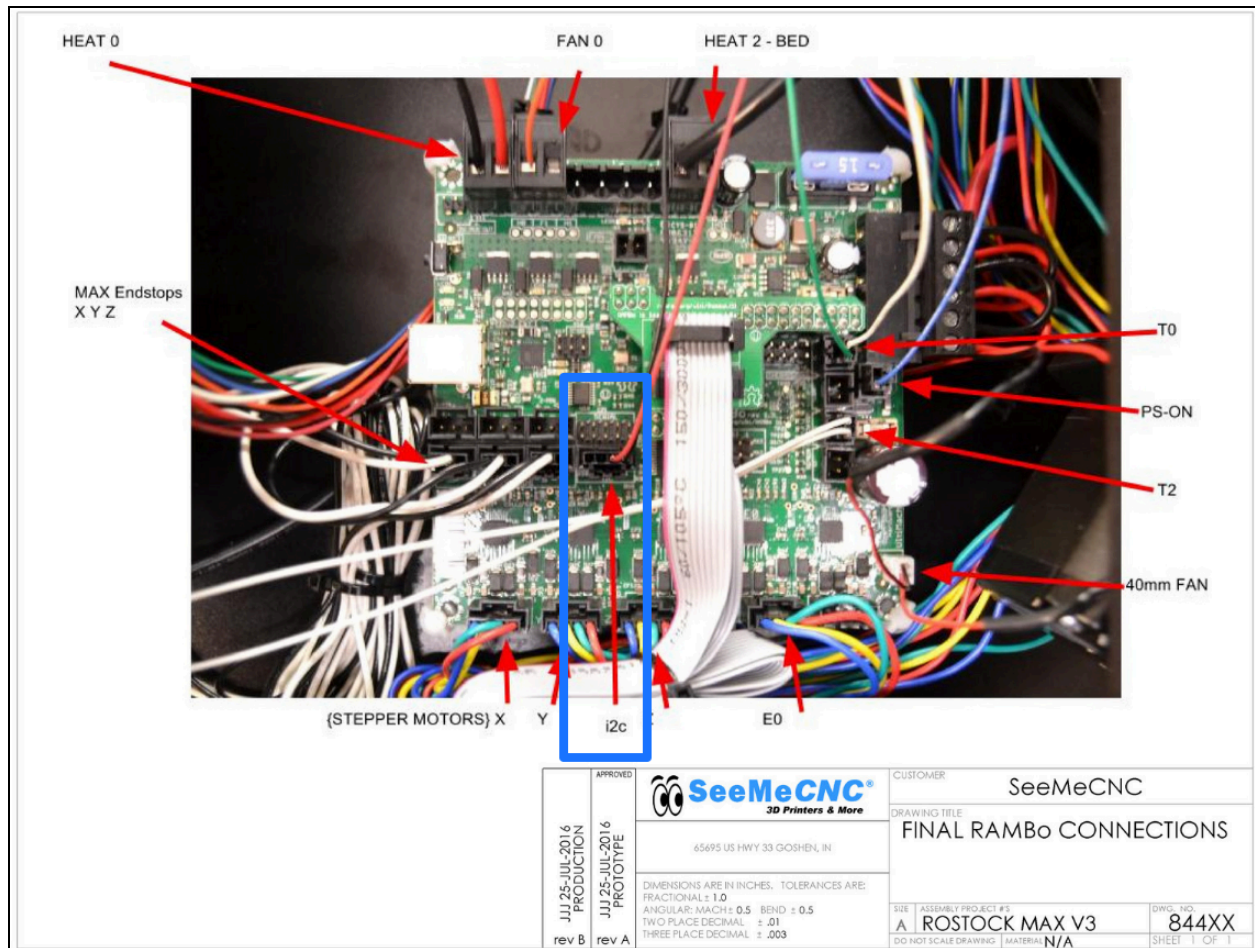

Figure 4 HE280 Whip HE280 RAMBo Connections
3. Ensure that all of the wires connecting to the RAMBo board are in the correct location, fully seated / inserted and the terminal itself is fully tightened / inserted. (see Figure 4 below)
3. Ensure that all of the wires connecting to the RAMBo board are in the correct location, fully seated / inserted and the terminal itself is fully tightened / inserted. (see Figure 4 above)